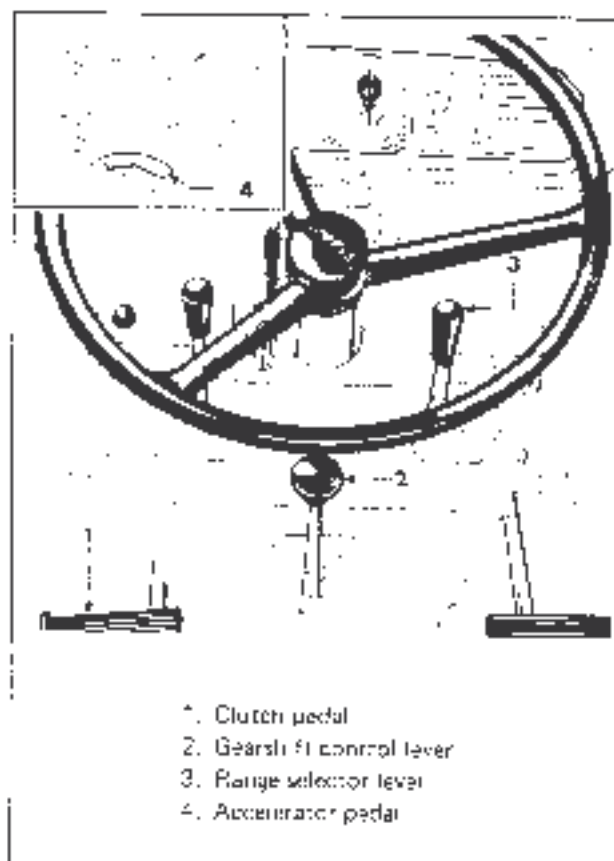

Figure 8. Operation sequence
1. Press clutch pedal (fig. 8, detail 1).